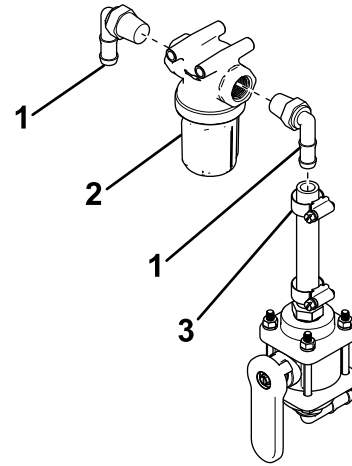

Figure 32
6. Install a 90° hose fitting on both sides of the filter (Figure 32).
7. Secure the 9.5 cm (4-3/4 inches) hose to the right 90° hose fitting with a hose clamp (Figure 32).